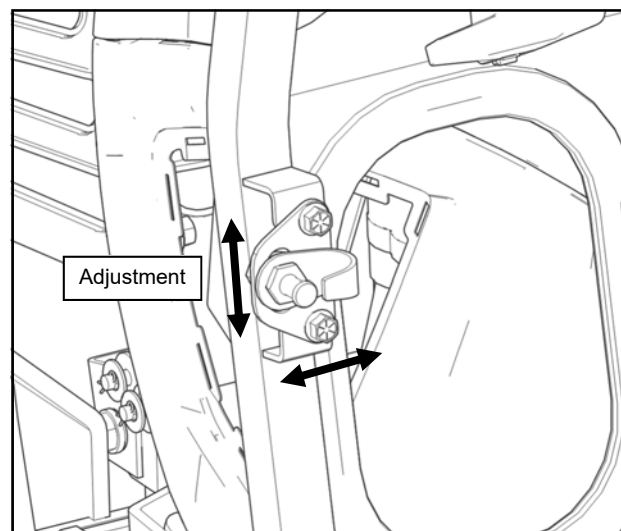

Fig. 26.3 (Striker Pin Adjustment)
- 26.4** Open the door and check for smooth operation of the latch. As noted in step 26.3, the door will likely drop a little bit at the front and the striker pin will need to be adjusted down accordingly. Also make sure the door seal is making contact along the perimeter of the door and the latch clicks twice when closing. If necessary adjust the striker in or out to achieve this (see Figure 26.3).